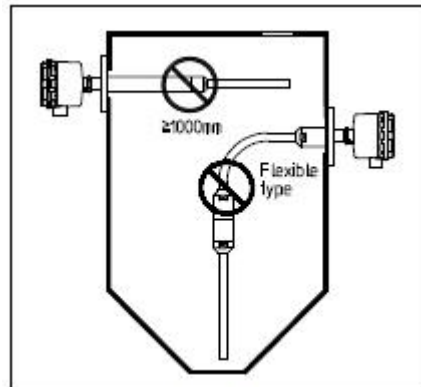

Fig. 5-10
(12) Do not mount SVL25 (long type) longer than 1m horizontally. Otherwise the extension pipe may be bent or come off due to material load. (Fig. 5-10)